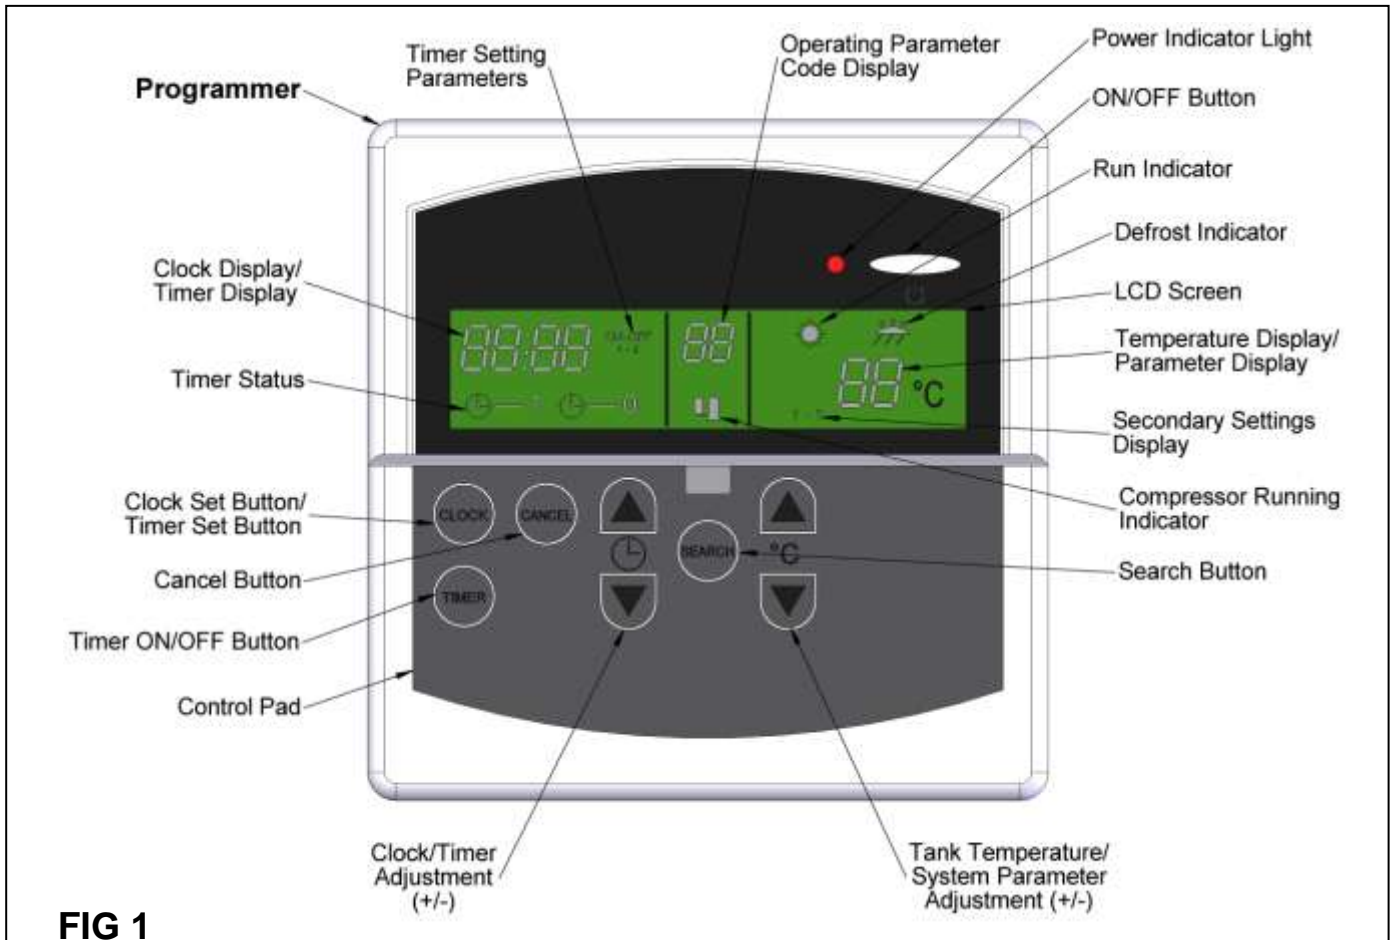

FIG 1
The diagram below (fig. 1) shows the programmer layout with the controls uncovered (lift off the protective flap).
In certain circumstances, the unit may enter a temporary lockout mode in order to maintain efficient operation. During such times, a code will appear on the programmer display (**fig. 1**). This is entirely normal and the unit will automatically resume functioning once it has completed its reset cycle.
If the temperature is cold enough for ice to develop on the coil, this may become clogged and cause the appliance to cease operation. Should this occur, the unit will automatically enter defrost mode. This will divert heat from the heating circuit back to the coil until the ice has melted. The DEFROST symbol will appear above the temperature display (see **fig. 1**) during such times.
1. The unit may be running through a process to clear an operating parameter condition. In most cases, this will be cleared automatically, though if it persists, check the programmer display (**fig. 1**) for an operating parameter number. Refer to the guide on **page 21** for full descriptions and remedies.
4. Check the unit has not entered defrost mode (the DEFROST symbol will appear above the temperature display – see **fig. 1**). Should this occur, the heat output from the appliance will be diverted to the coil, until any ice build-up has been removed.